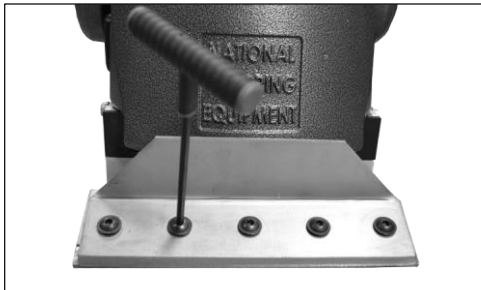

FIG. 7.1
2. Use the supplied extended 6 mm Hex wrench with at least a 76 mm extension to keep hand safely away from the blade. Loosen the five hex drive bolts (Figure 7.1), it is not necessary to remove them completely.